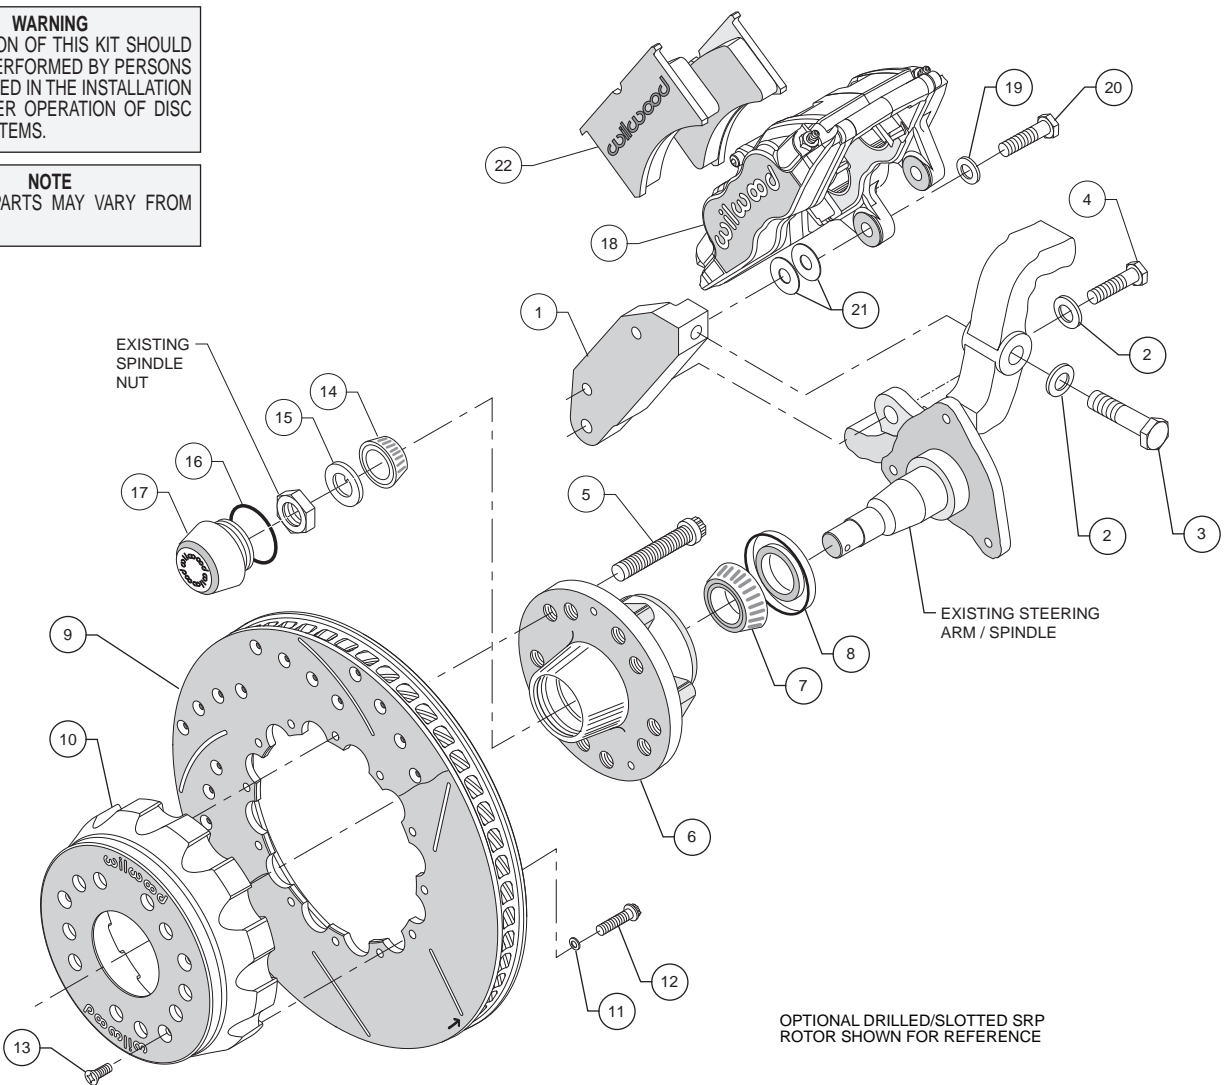
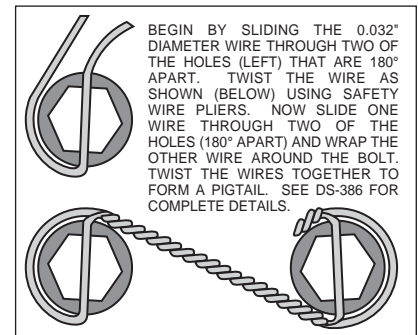

Figure 1. Typical Installation Configuration
Figure 3. Safety Wire Diagram
- The caliper mount bracket assembly (1) should be installed first with clean, dry threads on the mounting bolts. Install the bracket by sliding bolt (4) through washer (2) from the back side through the lower caliper mounting ear on the spindle. Slide bolt (3) through washer (2) from a 90° degree angle on the upper portion of the steering arm. The bracket must tighten squarely against the outboard side of the caliper mount bosses on the spindle body. Inspect for interference from casting irregularities, machining ridges, burrs, etc. Later, after the caliper, pad, and rotor alignment has been checked, and any necessary shims have been put in place, the mount bolts should be coated with red *Loctite*® 271 and torqued to 65 ft-lbs.
- Install wheel studs (5) into the hub (6). Torque to 77 ft-lb. **NOTE:** There are two (2) five lug patterns in the hub (5 x 4.50 and 5 x 4.75). Make sure of the correct hole pattern for the correct wheel application before installing studs into hub.
- Pack the large inner bearing cone (7) with high temperature disc brake bearing grease (available from your local auto parts store) and install into the backside of the hub (6).
- Install the grease seal (8) by pressing into the backside of the hub (6).
- Pack the small outer bearing cone (14) with high temperature disc brake bearing grease and install into front of hub (6). Slide the hub assembly (5, 6, 7, 8 and 14) onto the spindle. Secure using spindle washer (15), stock adjusting nut and nut locking device. Adjust wheel bearing pre-load per Original Equipment manufacturer (OEM) specifications.
- Install the o-ring (16) on the dust cap (17), and screw dust cap assembly onto the hub (6). Friction created by the o-ring (16) on the dust cap (17) keeps it from unscrewing.
- With the larger I.D. side of the rotor (9) facing away from the hat (10), bolt rotor (9) to hat(10) through the backside of the rotor using washers (11) and bolts (12). Torque bolts (12) to 85 **in-lb**. Safety wire bolts (12) using standard 0.032 inch diameter stainless steel safety wire as shown in Figure 3. Please refer to Wilwood's data sheet DS-386 (available at www.wilwood.com/Pdf/DataSheets/ds386.pdf) for complete safety wire installation instructions.
- Slide the rotor/hat assembly over the studs (5) in the hub (6) taking care to align the small countersunk holes in the hat (10) with the small threaded holes in the hub (6). Install three flat head socket head screws (13) through the small holes in the hat (10) and torque to 85 **in-lb**.
- Mount the caliper (18) onto the caliper bracket (1) using washers (19) and bolts (20) as shown in Figure 1. Initially place two .030 thick shims (21) between the caliper and the bracket. Temporarily tighten the mounting bolts and view the rotor (9) through the top opening of the caliper. The rotor should be aligned in the center of the caliper. If not, adjust by adding or subtracting shims (21) between the caliper and bracket. Apply red *Loctite*® 271 to bolt threads and torque to 42 ft-lb.
- Remove the caliper bridge spacer and bolt. Install the disc brake pads (22), then reinstall the caliper bridge spacer and bolt.